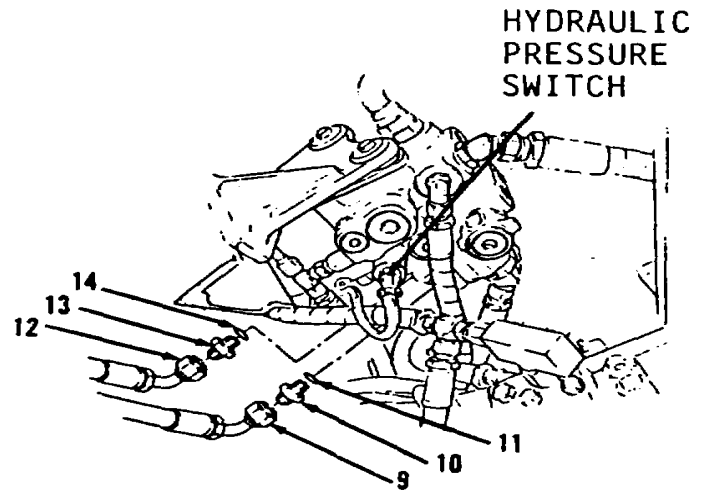
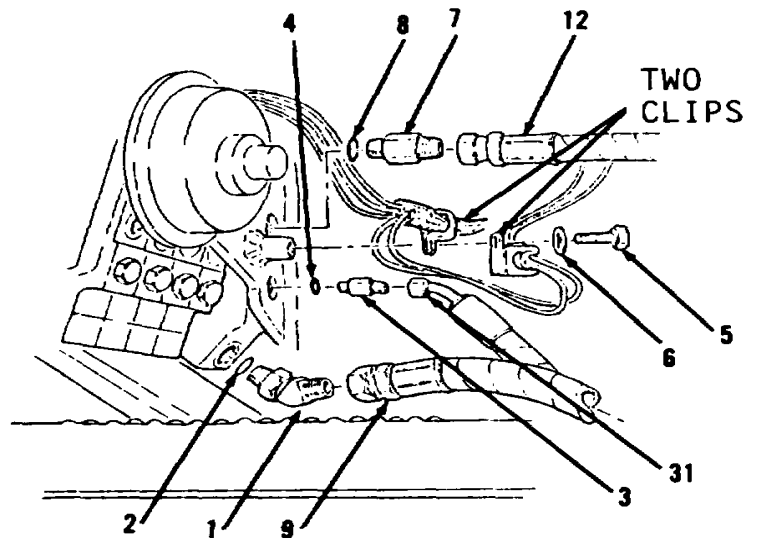

Figure 10-158.
Figure 10-157.
21. Install new preformed packing (14), connector (13) and hose assembly (12, Figure 10-158).
22. Install new preformed packing (11), connector (10) and hose assembly (9).
24. Install new preformed packing (8) and connector (7, Figure 10-157).
25. Connect hose assembly (12).
26. Install two clips, washer (6) and bolt (5).
27. Install new preformed packing (4) and connector (3).
28. Connect hose assembly (31).
29. Install new preformed packing (2) and elbow (1).
30. Connect hose assembly (9).